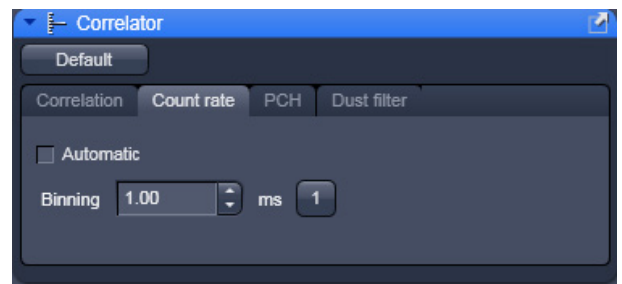

Fig. 292 Correlator tool - Count rate active
- Click on the **Count rate** tab to open the **Count rate** panel (Fig. 292). Click any other tab to leave the panel.